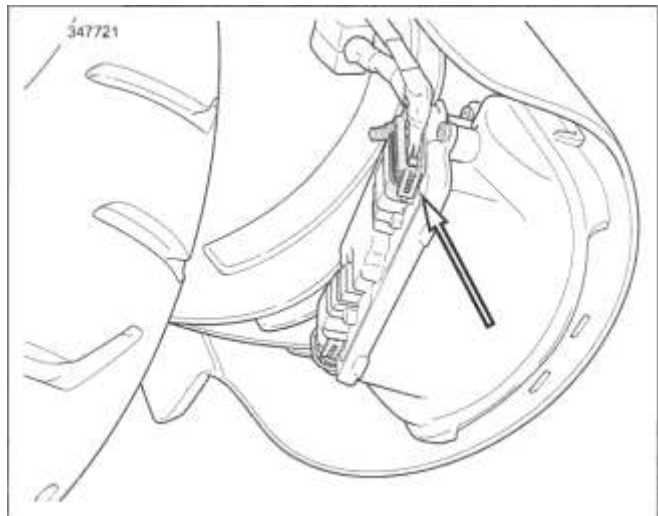
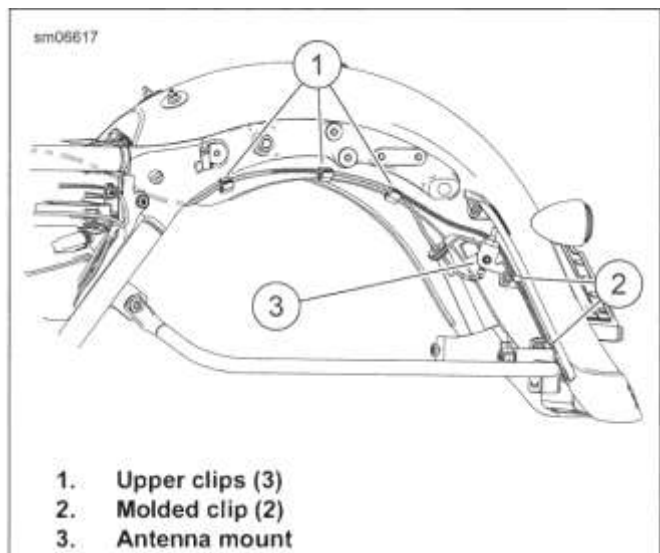

Figure 3-160. Rear Fender Lights Connector: FLHX, FLHXS, FLTRX, FLTRXS
Figure 3-161. Rear Fender Lamps Harness and Antenna Cable: FLHX, FLHXS, FLTRX, FLTRXS
4. **FLHX, FLHXS, FLTRX, FLTRXS, FLHRXS:** See Figure 3-160 and Figure 3-161. Remove shield and disconnect lights harness from rear fascia lamp. Release lights harness from retainers on left fascia and left saddlebag support casting.
3. FLHX, FLHXS, FLTRX, FLTRXS, FLHRXS: See Figure 3-160 and Figure 3-161. Route light harness through retainers on left fascia and left saddlebag support casting. Install shield and connect lights harness to rear fascia lamp.